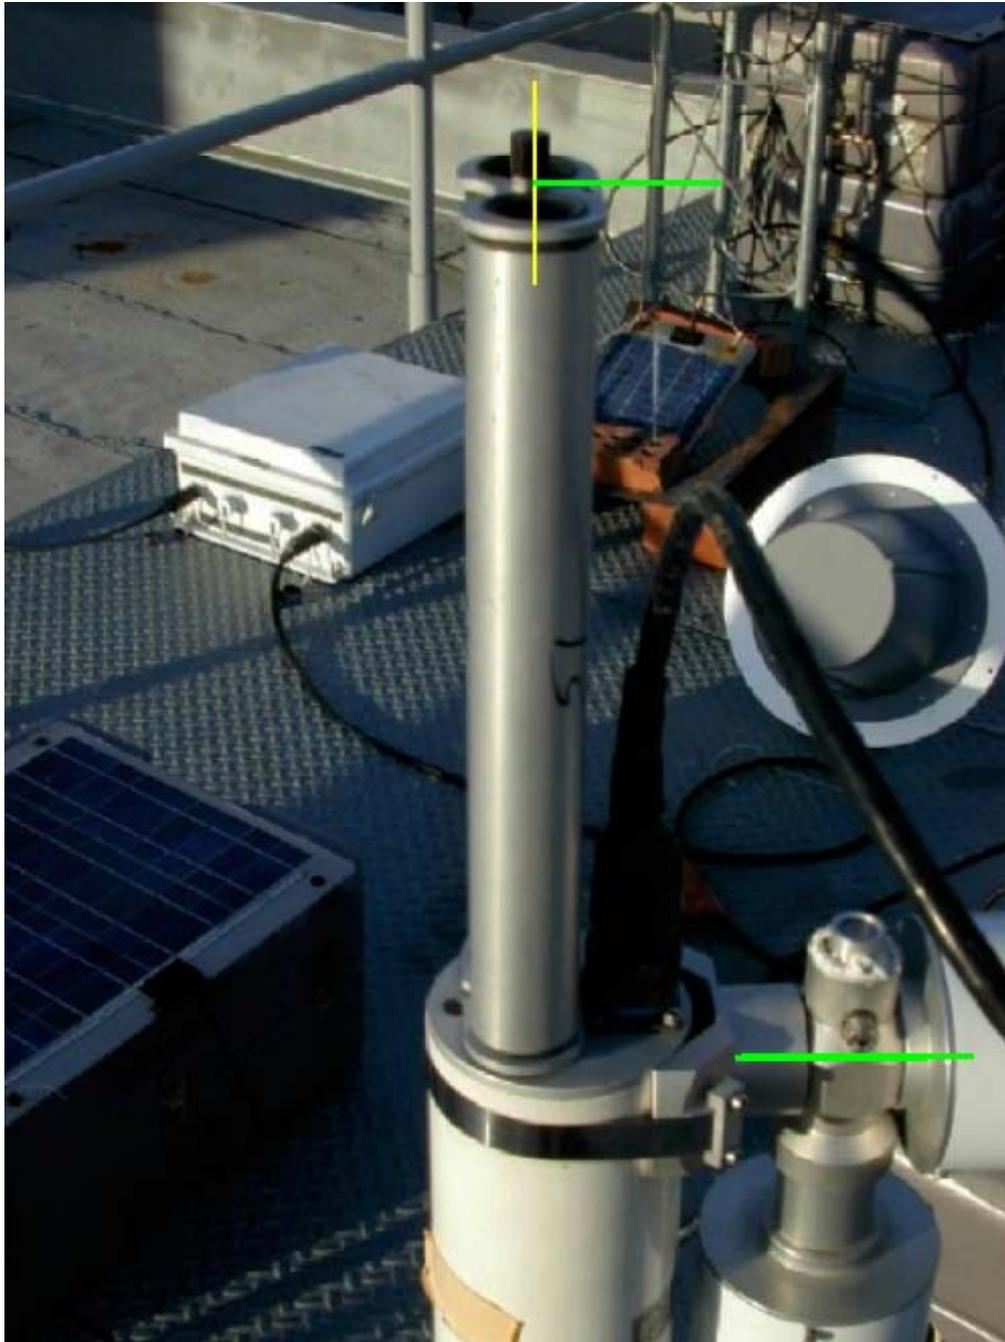

Figure 3 The long axis of the collimator cross-section (yellow) should be exactly perpendicular to the robot's zenith motor axis (green)
2. Ensure that the long axis of the collimator cross-section is perpendicular to the axis of the zenith motor casing and claw (FIGURE 3).